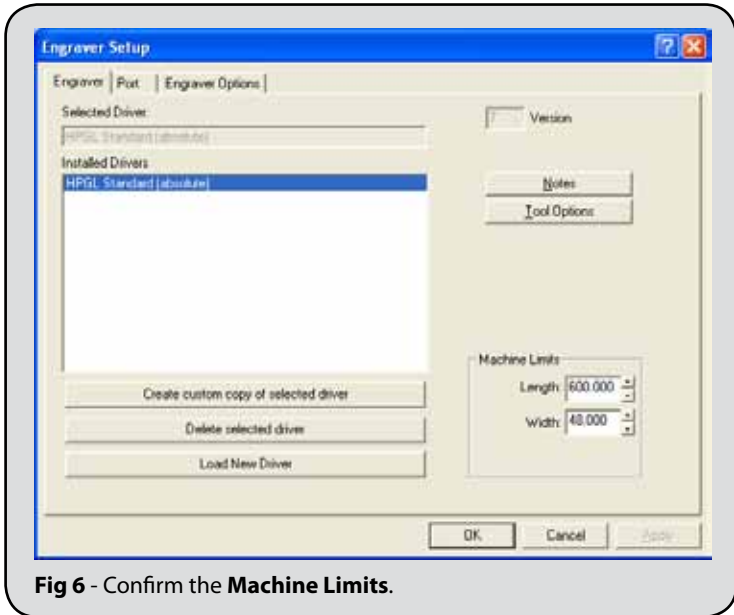

Fig 6 - Confirm the Machine Limits.
13. On the **Engraver** tab, confirm that the **Machine Limits** have not been exceeded. (Fig. 6)